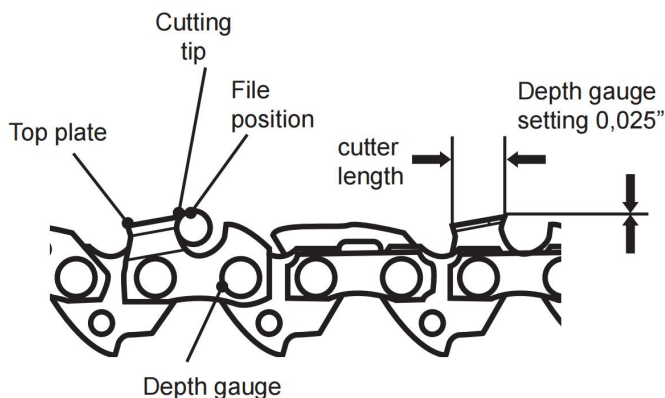

Fig. 75
9. Use a depth gauge measuring instrument to check the height of the depth gauge. Depth gauge measuring jigs are available from most reputable tool merchants (Fig. 75).